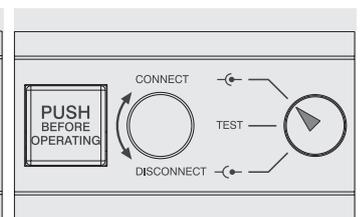

Figure 98
- circuit-breaker in CONNECT position (see Figure 98)